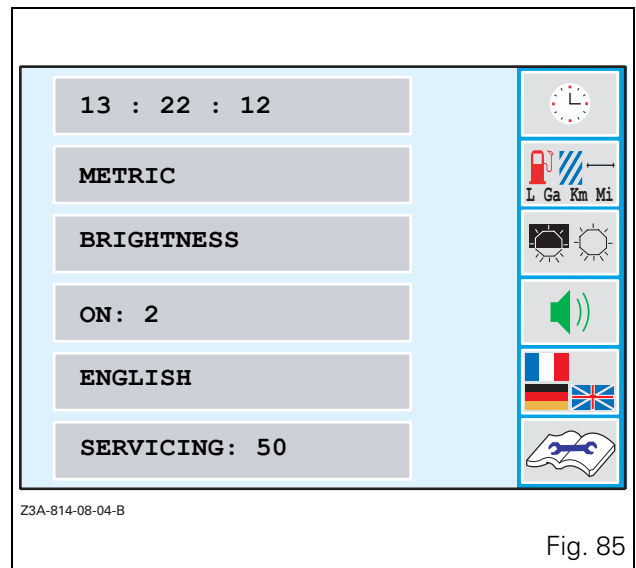
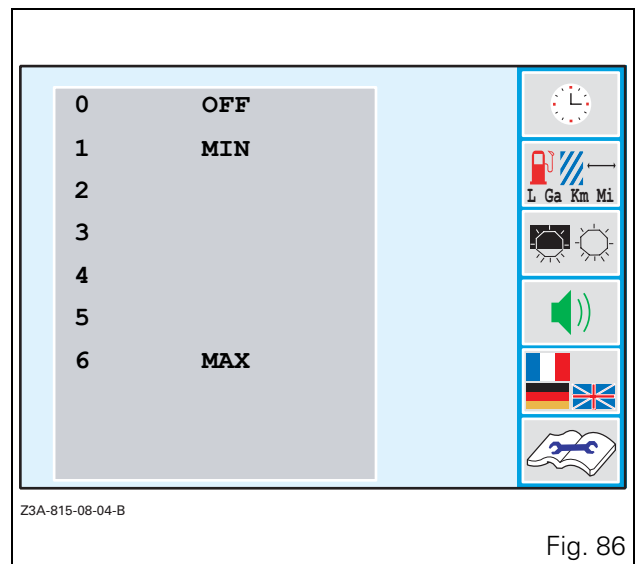
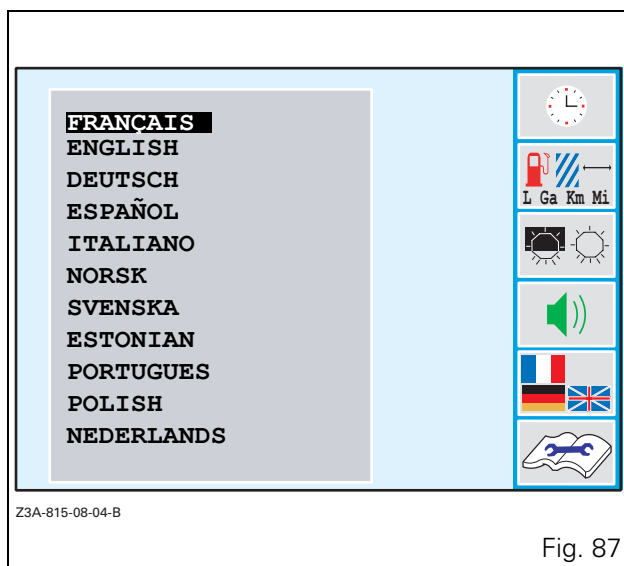
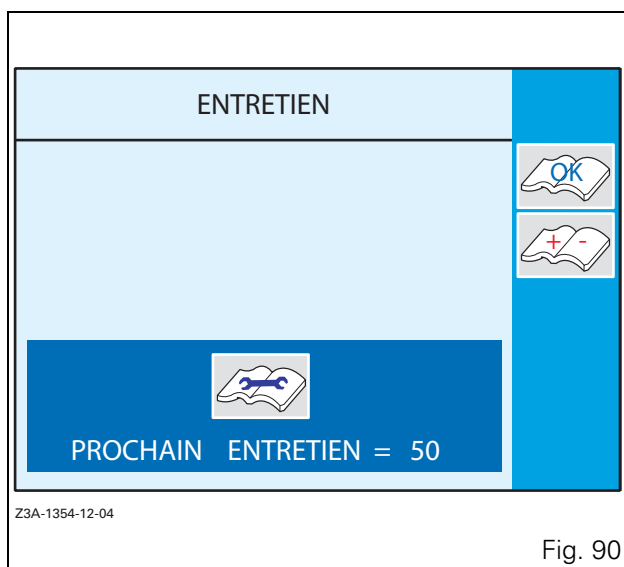

Fig. 85
Fig. 86
Fig. 87
Fig. 90
- Press the key «₄ when the window (Fig. 85) is open. The window (Fig. 86) is displayed.
- Press the key <<5 when the window (Fig. 85) is open. The window (Fig. 87) is displayed.
- Press the key <<6 when the window (Fig. 85) is open. The window (Fig. 90) is displayed.